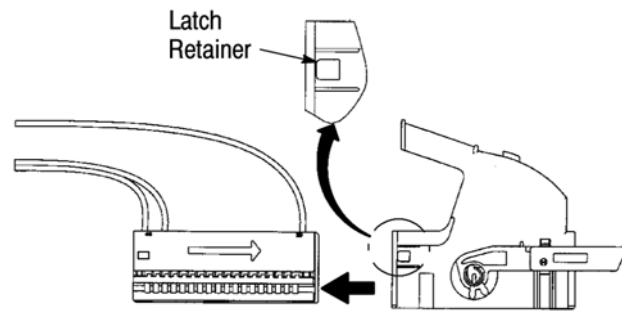

Figure 4
2. Release latch retainer on side of cover assembly and simultaneously pull cavity block from cover assembly. See Figure 4.